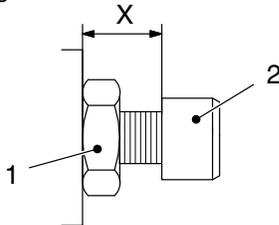

Fig. 5-10
4. **Mechanical pressure control valves:** Measure the insertion depth (Fig. 5-10): of setting screw (2) (dimension X) and make a note. This ensures that the insertion depth can be reproduced. Close the pressure control valve by turning it all the way clockwise.